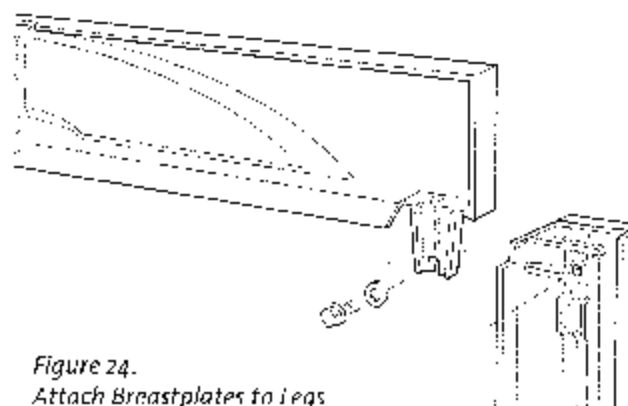

Figure 24. Attach Breastplates to legs
5. Attach the left and right leg sections to the breastplate assembly using a bolt and washer on each side. See fig. 24.